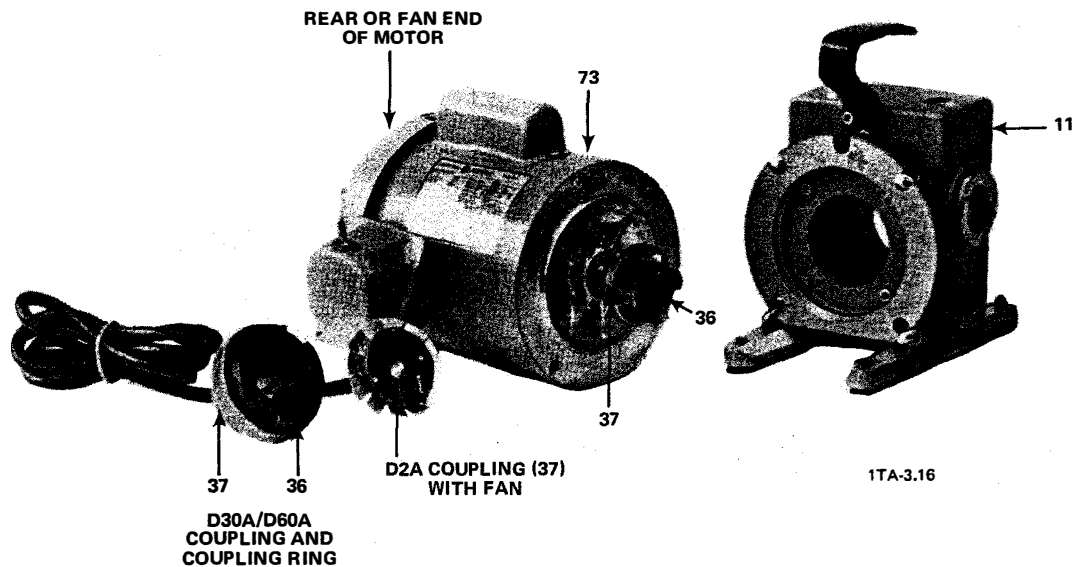

Figure 5-15. Coupling Housing and Motor (D2A Pump Model Shown)
- D-13** Using a U.S. standard wrench, unscrew and remove the four nuts and washers that attach the motor (73) to the coupling housing (11). Remove the motor from the coupling housing (see Figure 5-15).
- D-14** For the D2A, D4A, D8A, and D16A pump models only, pull the elastic element (36) off of the coupling (37) mounted on the motor shaft (see Figure 5-15).
E-7. Thoroughly clean the coupling housing (11), making certain that no dirt has accumulated in the crevices of the housing (see Figure 5-15).
- (b) Check if the fan on the rear end of the motor is rotating in the correct direction. Looking from the fan end of the motor, the fan and motor shaft should be rotating clockwise (see Figure 5-15).
**b. Steps b(1) and b(2) below apply only to D30A, D60A, and D90A pump models with three phase motors.**
- (1) If the pump has a new motor supplied by Leybold, a rotational lock bearing has been correctly installed at the factory to prevent the motor from rotating in the wrong direction. In this case, check the wiring of the motor as follows:
- (b) Check if the fan on the rear end of the motor (see Figure 5-15) rotates.
- (2) If the motor was not supplied through Leybold or the pump has an old Leybold supplied motor, grab the motor shaft or motor fan and attempt to turn it clockwise and then counterclockwise; then proceed as follows: